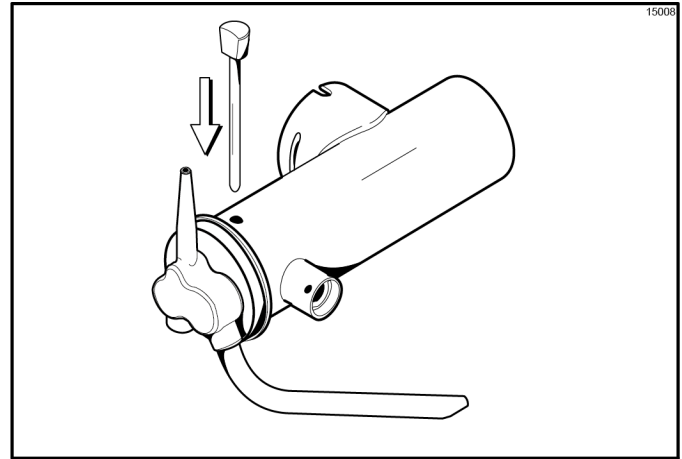

Figure 6-26
10. Secure the pump parts in position by sliding the retaining pin through the cross holes located at the bottom of the pump cylinder. (See Figure 6-26.)